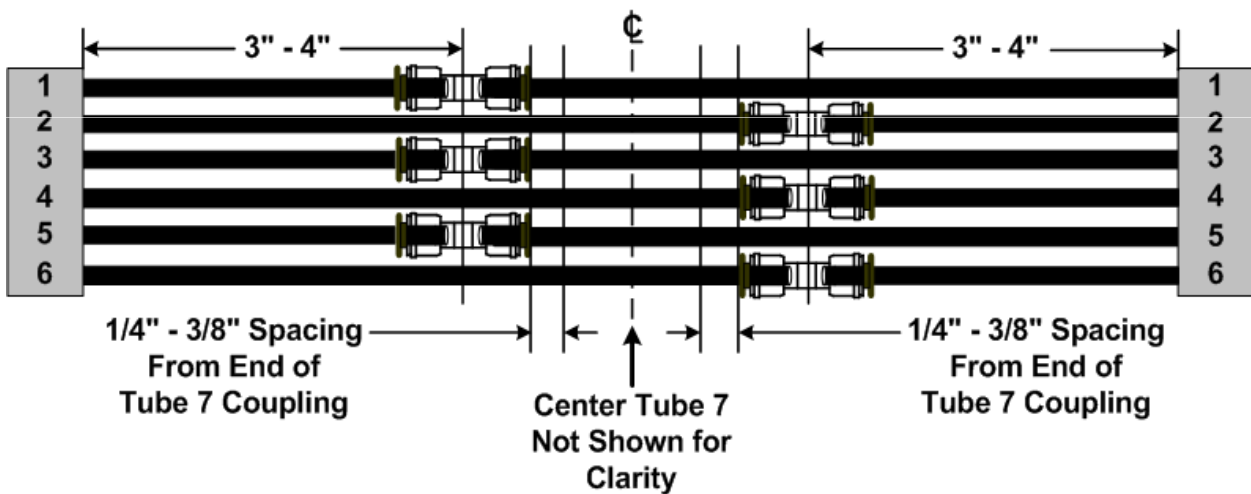

Figure 26
15.8 Locate and lay Tube 1 of first tube cable next to installed Tube 7 Coupling. **See Fig. 26.**
15.16 Repeat this procedure for Tubes 3 and 5 and for Tubes 2, 4, and 6 on the other side of Tube 7 Coupling. The "key" is to start in the middle and work toward the ends. **See Fig. 26.**